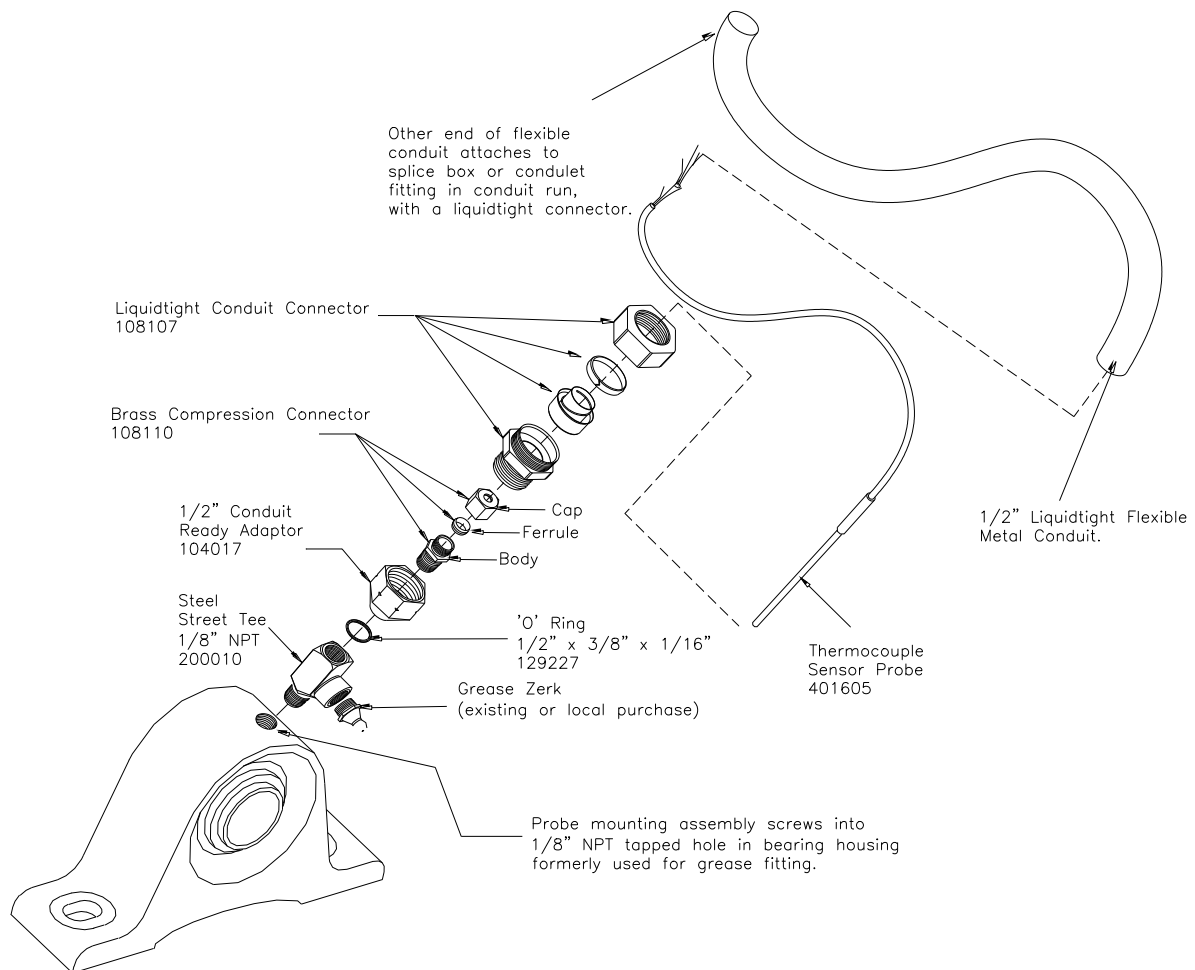

Figure 25. Bearing Probe Sensor and Fittings
6.6.2.1.1. Remove grease fitting (Zerk) from bearing housing. Most bearing housings are drilled and tapped for 1/8" NPT grease fittings (Zerks). If it is tapped for 1/8" NPT, proceed by inserting male threaded end of 1/8" NPT Steel Street Tee (200010) into the hole that has been vacated by the grease Zerk. Be careful not to over tighten. Screw existing Zerk into the side opening of the Tee and aim it so that it can be greased easily. See Figure 25.